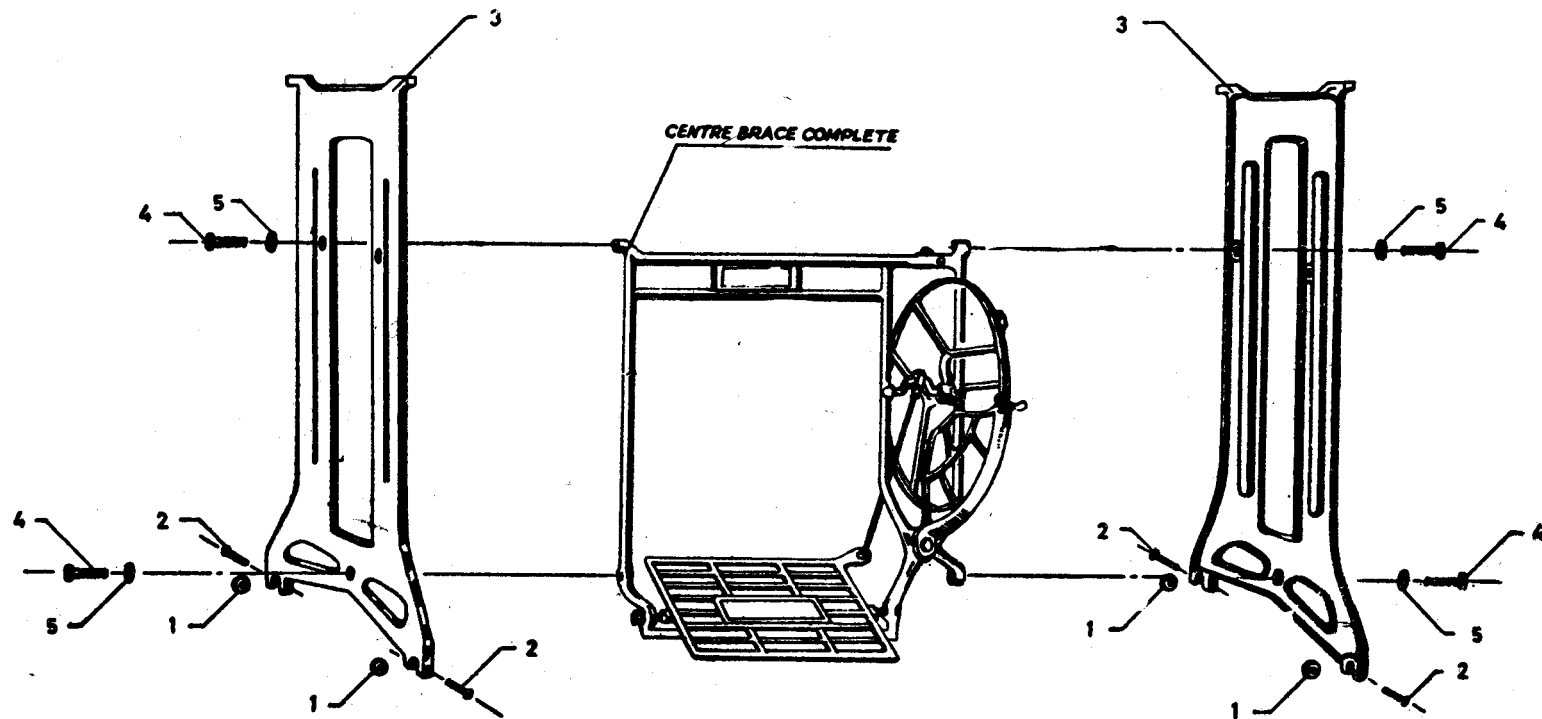

FIG. 21 STAND ASSEMBLY
**2.21 Stand Assembly — See Fig. 21.**